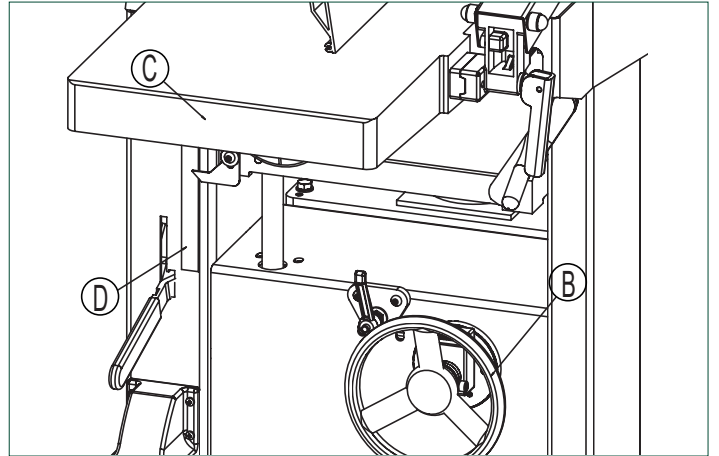

FIG. 7
- Workpieces of max. 200 mm thickness can be planed. Height adjustment is made with a handwheel (B, Fig.7). One full turn of the crank changes the height of the thicknesser bed (C, Fig.7) by 4 mm.
- Counter-clockwise turning = lowers the thicknesser bed. The set planing thickness is indicated on the scale (D, Fig.7).